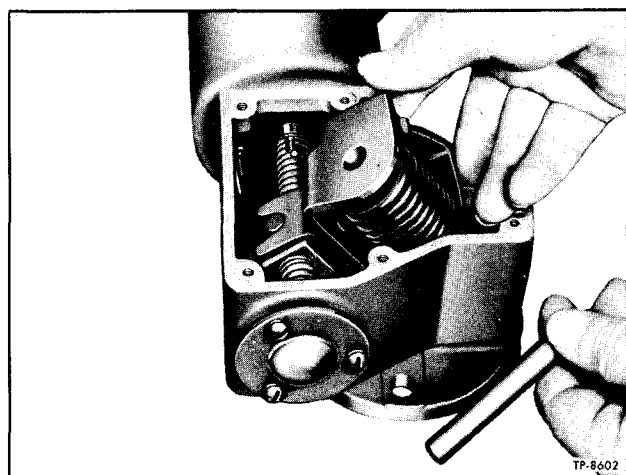

Figure 23—Removing Shaft, Actuating Lever, and Spring
4. Remove shift fork actuating lever (22), torsion spring (23), and spring winding lever (24) as an assembly by pulling shaft (21) up. Swing the assembly away from the drive nut and lift out of the housing (fig. 23).
5. Remove three screws and lock washers (16) which attach bearing cover (15). Remove